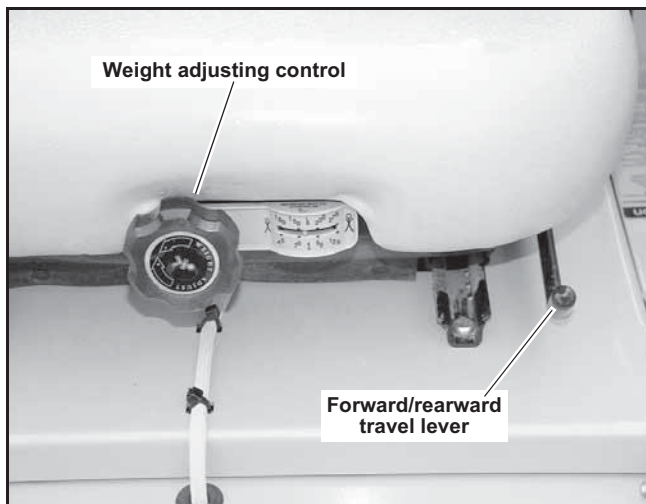

Figure 4-16
2. Forward and rearward travel Figure 4-16
3. Weight Figure 4-16